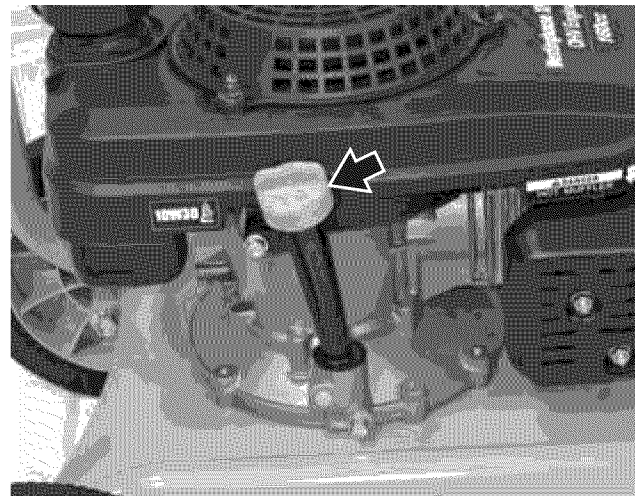

Figure 26 – Oil Fill Plug/Dipstick
5. Remove oil fill plug/dipstick (see Figure 26).